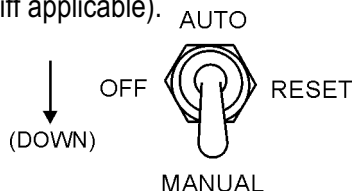

Figure 19. Off/Manual/Auto Switch (Manual)
9. Place the Off/Manual/Auto switch (Figure 19) in the **MANUAL** position (down). Observe that the engine begins to crank (iff applicable).